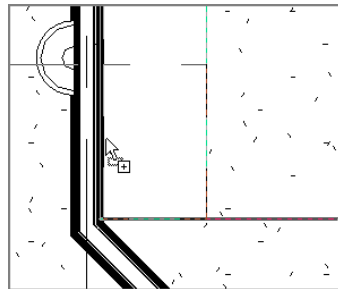

FIGURE 9.60: Placing the 36" (900mm) double-door, two-drawer base cabinet
6. Place a Base Cabinet Double Door & 2 Drawer 36" (900mm) in the position shown in Figure 9.60.